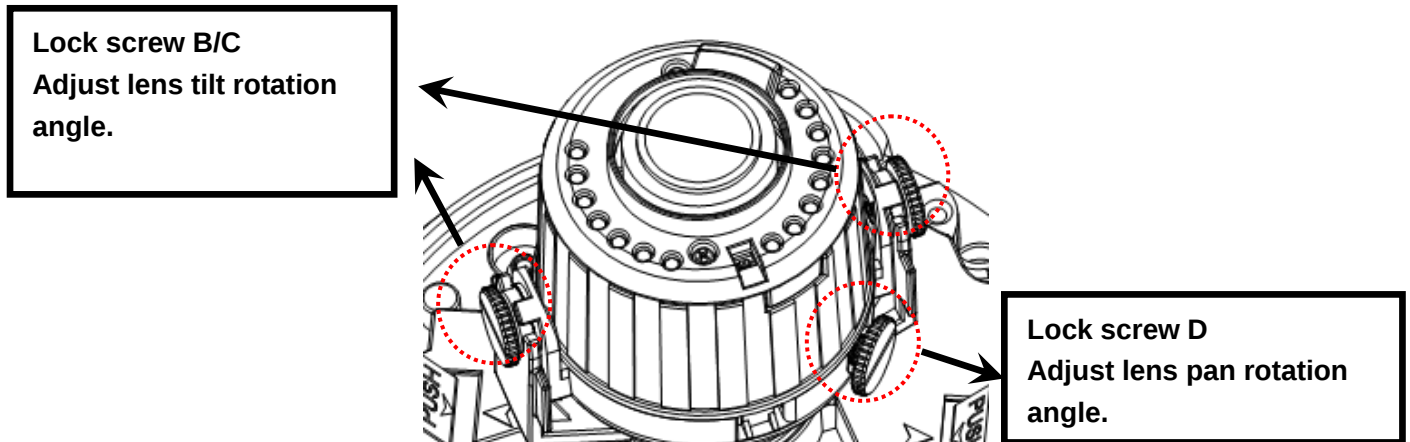

Figure 3-8 Installation 5
d). Image pan rotation angle setup. Please refer to Figure 3-8 to turn lock screw D to adjust the video pan angle. Then fix the lock screw B and C. The video pan angle ranges from 0° ~ $+350^{\circ}$.
Please note Figure 3-7 and Figure 3-8 is based on the IR motorized zoom camera. For the IR manual zoom camera and non-IR series product, the lock screw position and the lens angle adjustment are the same.